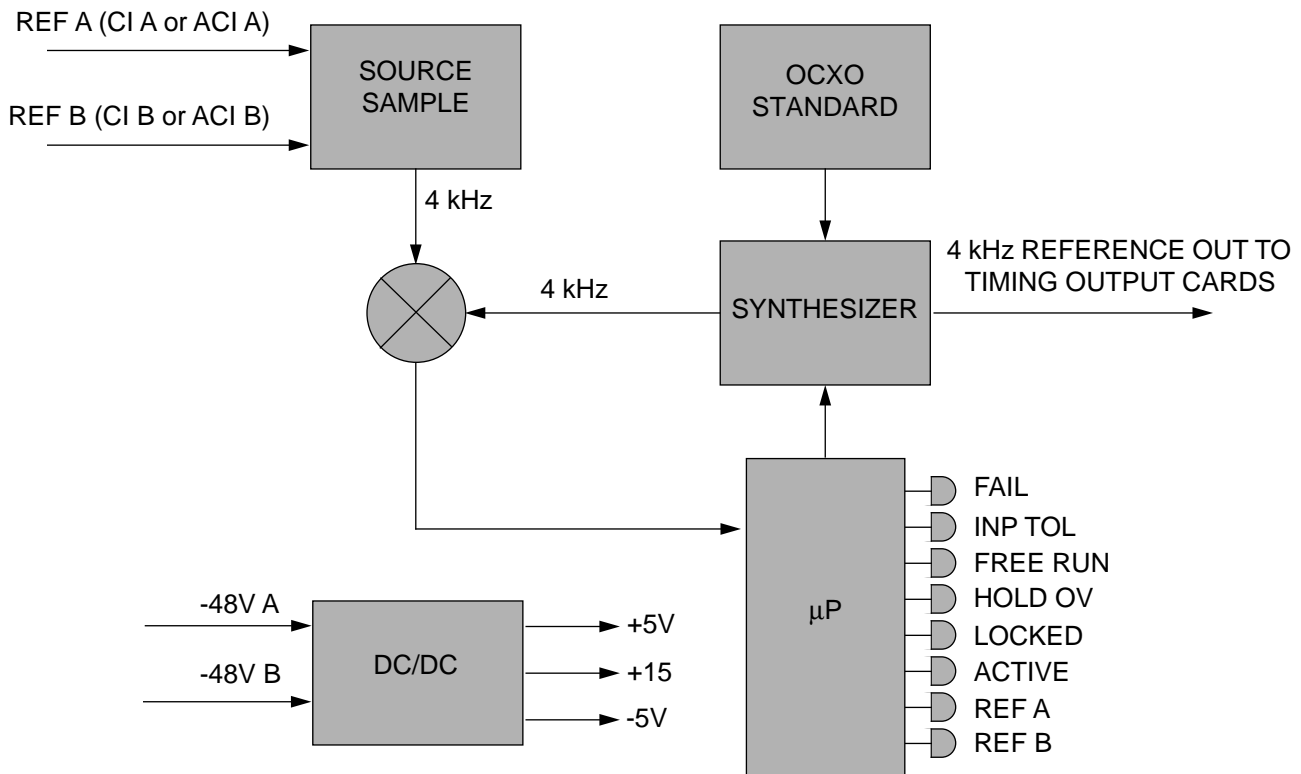

Figure 13. ST3E Card Block Diagram
4.51 The Stratum-3 (ST3) clock card (Figure 13) provides timing signals at Stratum-3 accuracy on the main bus to drive the TOxA cards. Select logic on each TOxA and SCIU card automatically chooses the input timing signal of the highest priority (refer to Table A).